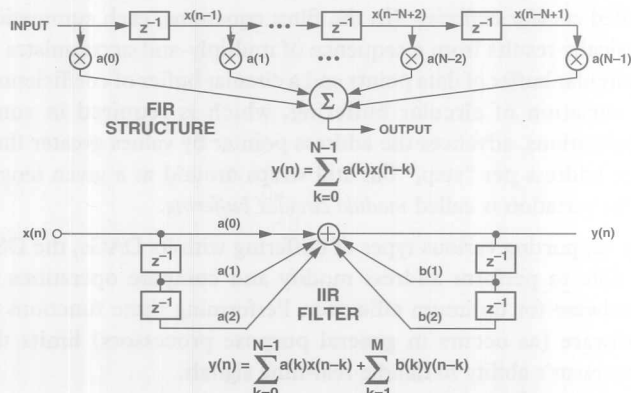

Figure 1. Filter equations and their delay-line models.
The three principal reasons for using digital filtering are (1) closer approach to ideal filter approximations, (2) ability to adjust filter characteristics in software rather than by physical tuning, and (3) compatibility of filter response with sampled data. The two best-known filters described in Part 1 are the finite impulse-response (FIR) and infinite impulse-response (IIR) types. The FIR filter response is called *finite* because its output is based solely on a finite set of input samples; it is non-recursive and has no poles, only zeroes in its  $s$ -plane. The IIR filter, on the other hand, has a response that can go on indefinitely (and can be unstable) because it is *recursive*, i.e., its output values are affected by both input and output. It has both poles and zeroes in its  $s$ -plane. Figure 1 shows the typical filter architectures and summation formulas that appeared in Part 1.